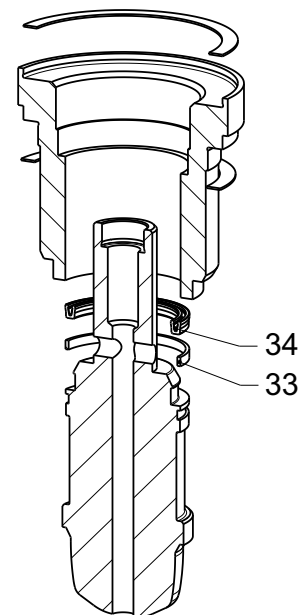

Fig. 18: Pressure balanced plug with PTFE V-ring
**Refer to item 11.0 and 12.0 before dismantling the valve.**
- Remove plug as described in item 7.2.1.
- Prise worn piston seal (pos. 34) out of groove in plug with suitable tool (e.g. screwdriver).
- Insert new piston seal (pos. 34), taking care that it is in the correct position (refer to Fig. 18).
- Replace guide ring (pos. 33).
- Clean sliding surface of guide bush (pos. 32); smooth with fine abrasive if necessary.
- Replace 2 gaskets (pos. 8).
- Secure with nuts (pos. 10) and tighten them crosswise.